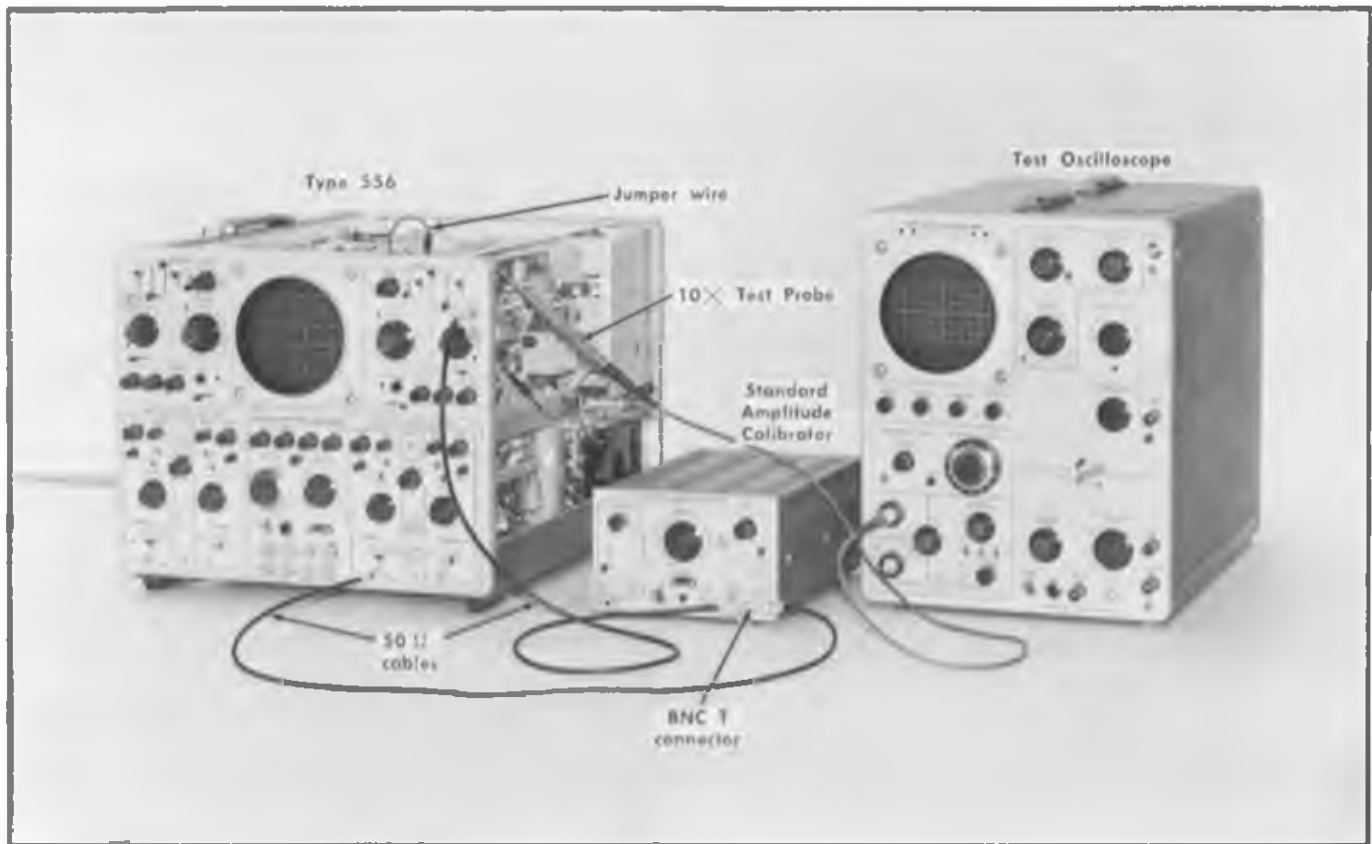

Fig. 6-26. Equipment setup for external triggering adjustments.
a. Remove the Test Load units and in their place install the Type 1A1 plug-in units. Test equipment setup is shown in Fig. 6-26.